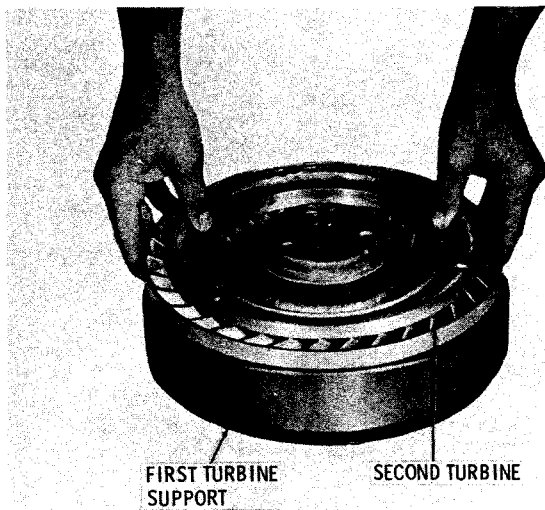

Fig. 6-7. Installing second turbine
(3) Remove the second turbine and its bearing from the first turbine support (fig. 6-7).
(4) For TRT 4821 models, proceed to step (5). For TRT 4820 models, do not remove internal snapping 8 (A, foldout 3) from the second turbine unless replacement is necessary. If bearing 7 must be replaced, press the bearing off by pressing through the three push-out holes provided in the hub of second turbine 6. Proceed to step (6).
(5) For TRT 4821 models, if bearing 7 must be replaced, flatten the ends of lockstrips 21. Remove ten bolts 22 and five lockstrips 21. Separate hub 19 and bearing 7 from second turbine 20. Press bearing 7 off hub 19 by pressing through the five push-out holes provided in the hub.
(6) For all models, if bearing 1 must be replaced, press the bearing out by pressing through the three push-out holes in the hub of first turbine support 3.
(2) For TRT 4820 models, proceed to step (3). For TRT 4821 models, if hub 19 was removed from second turbine 20, install the hub into the front of turbine 20, splined end of hub to the front. Install five lockstrips 21 and ten 7/16-20 x 3/4 bolts 22. Tighten the bolts to 64-77 lb ft (87-104 N·m). Lock each bolt head by bending a corner of the lockstrip against it.
(3) For all models, if bearing 7 was removed, install a new bearing by pressing on the lettered side of the bearing until it is firmly seated.
(4) For TRT 4821 models, proceed to step (5). On TRT 4820 models, if snapping 8 was removed, install a new snapping into the hub of second turbine 6.
(5) For all models, install the second turbine (and bearing) into the first turbine support (fig. 6-7).